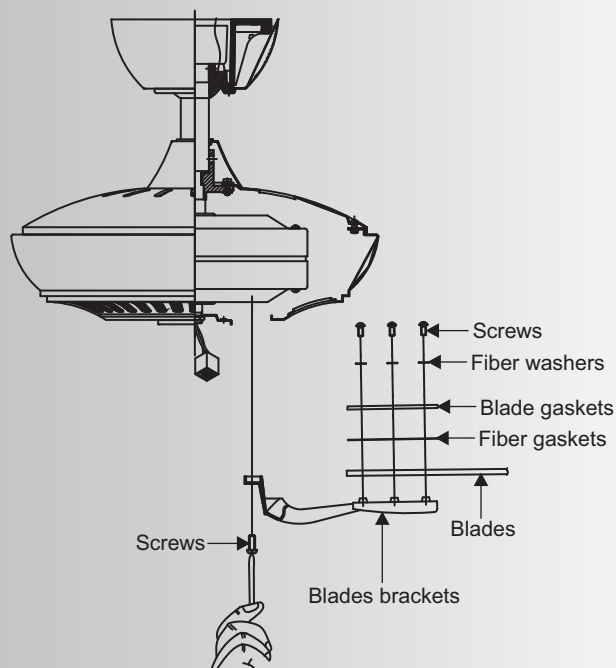

Fig. 14
Step 1. Attach blades to blade arm using the screws with rubber washers, blade gaskets and fiber gaskets provided. (Fig. 14)
Step 2. Attach each blade assembly to the motor using the "Pre-Installed" mounting screws in the blade bracket. (Fig. 14)